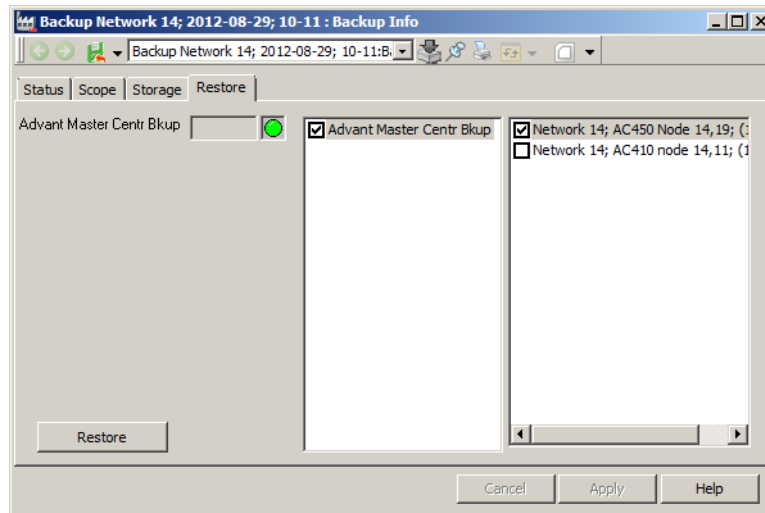

Figure 79. Backup Info aspect-Restore tab
3. Click **Apply** to save the changes. See Figure 79.